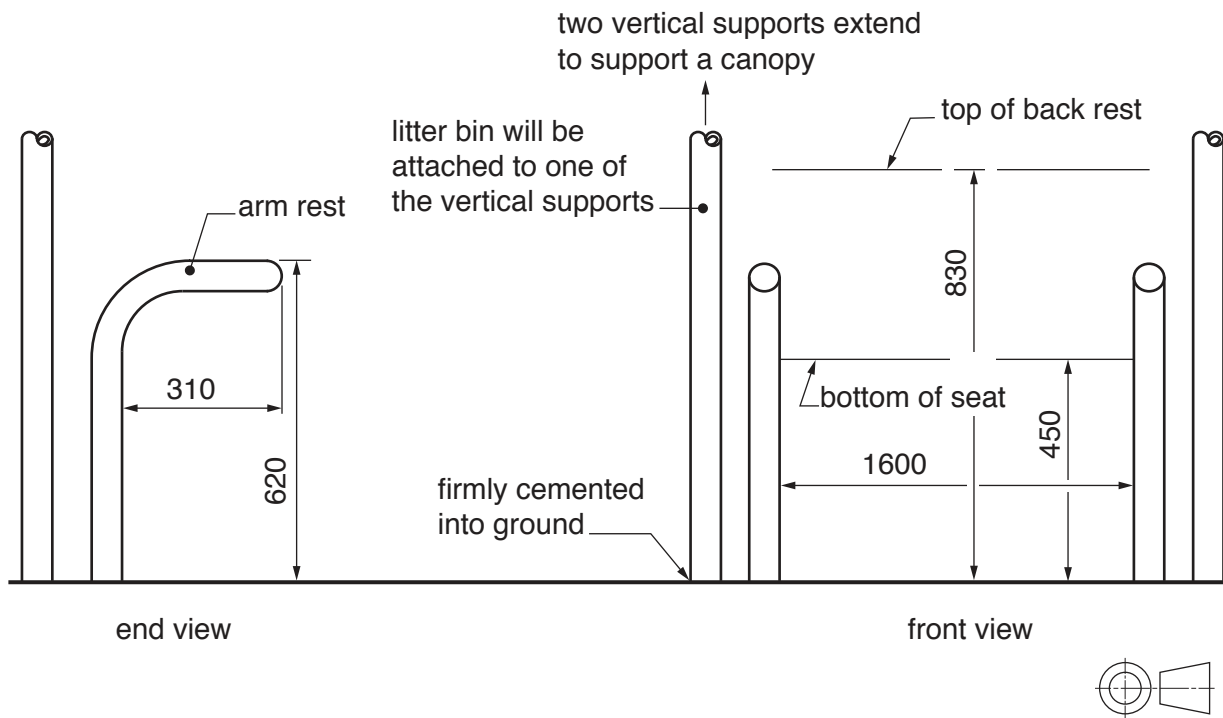

Fig. 9
- 9 Fig. 9 shows an incomplete design for an outdoor seating facility which will be built in a park or other public space.